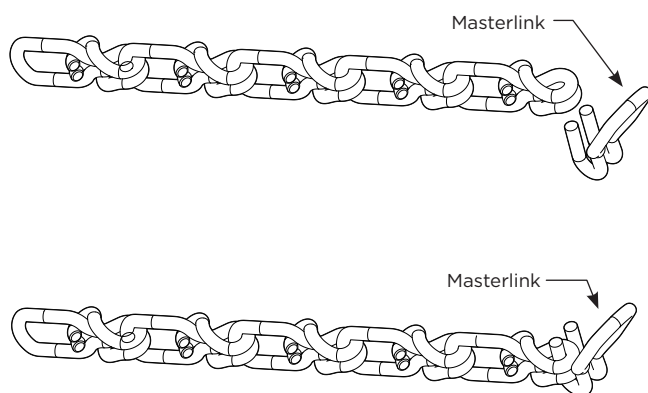

Figure 7
5. Attach the master link to the chain by inserting the looped end of the chain into the open end of the master link. See **Figure 7**